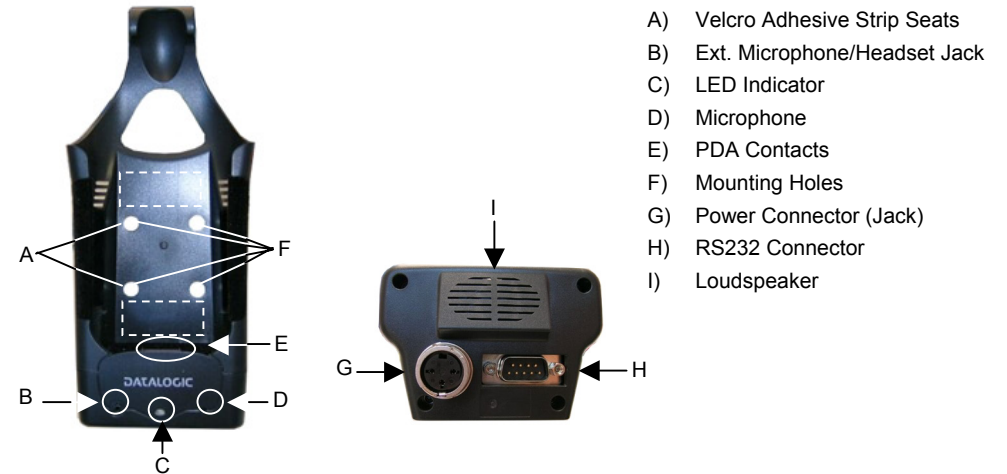

Figure 1 – Datalogic Jet™ Vehicle Cradle
2. Carefully clean the adhesive strip seat of the rear of the cradle (see Figure 1) to remove any impurities that could reduce adhesion;